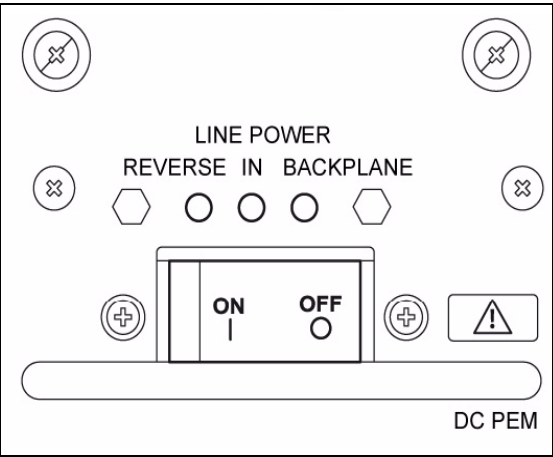

Figure C.2 - PEM LEDs
- Check the PEM LEDs (see **Figure C.2**) and take the appropriate actions as listed in **Table C.1**.